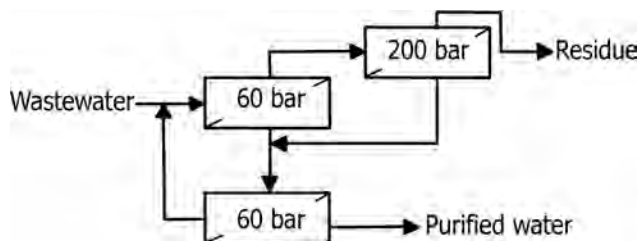

FIGURE 18.58 RO cascade to produce high-quality permeate.
- Figure 18.58 shows the flow diagram of a possible wastewater treatment. The retentate of the 60 bar stage is further concentrated in a 200 bar stage, permeates of both stages are treated in a third stage at 60 bar to reach high quality.